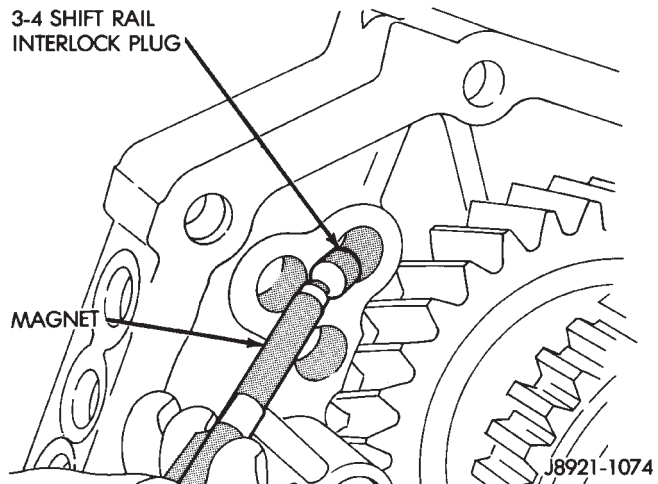

Fig. 88 Install 3-4 Shift Rail Interlock Plug
(17) Install 3-4 shift rail interlock plug into the intermediate plate (Fig. 88).